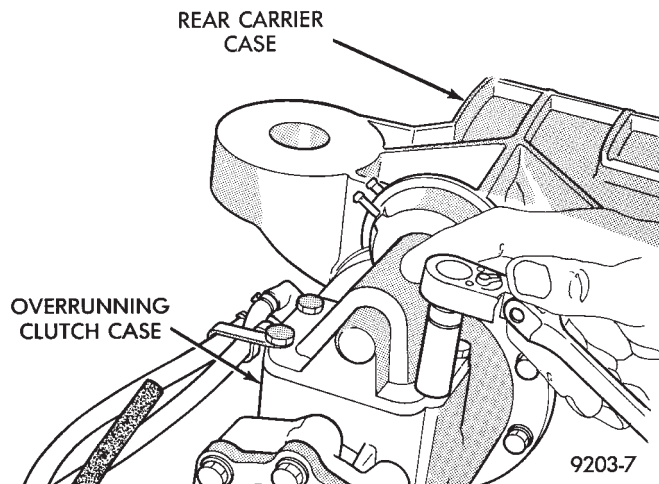

Fig. 4 Mounting Bolts
- (1) Remove rear drive line module assembly from vehicle.
- (2) Remove overrunning clutch cover assembly mounting bolts (Fig. 4).
- (3) Lift overrunning clutch cover off of overrunning clutch housing.
- (4) Clean and inspect sealing surfaces.
- (5) Apply Mopar® Gasket Maker, Loctite Gasket Eliminator or equivalent and reinstall cover and vac-